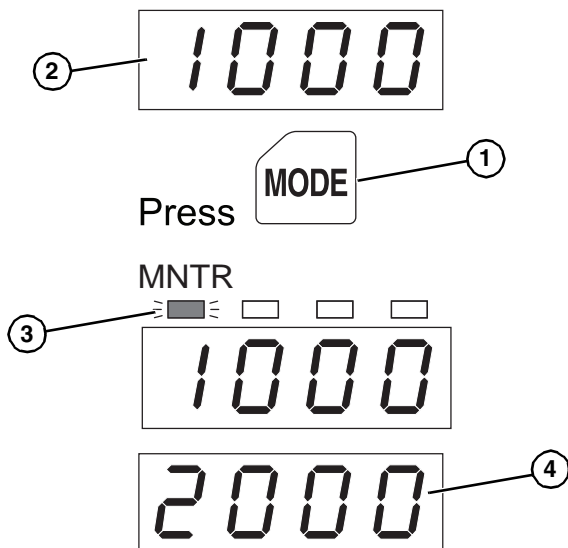

Figure 38
1. While the motor is running, press MODE (Figure 38, item 1) with the display showing the speed (e.g., 1000 r/min) (Figure 38, item 2). The MNTR LED (Figure 38, item 3) will blink.